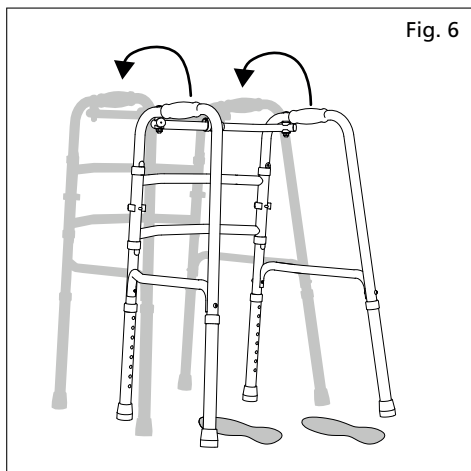

Fig. 6
With this setting, the walking frame remains rigid, i.e. both parts of the walking frame are moved forwards at the same time (Fig. 6, Section 4.1).
4. You can now lift up the walking frame and set it down slightly further in front of you (Fig. 6).